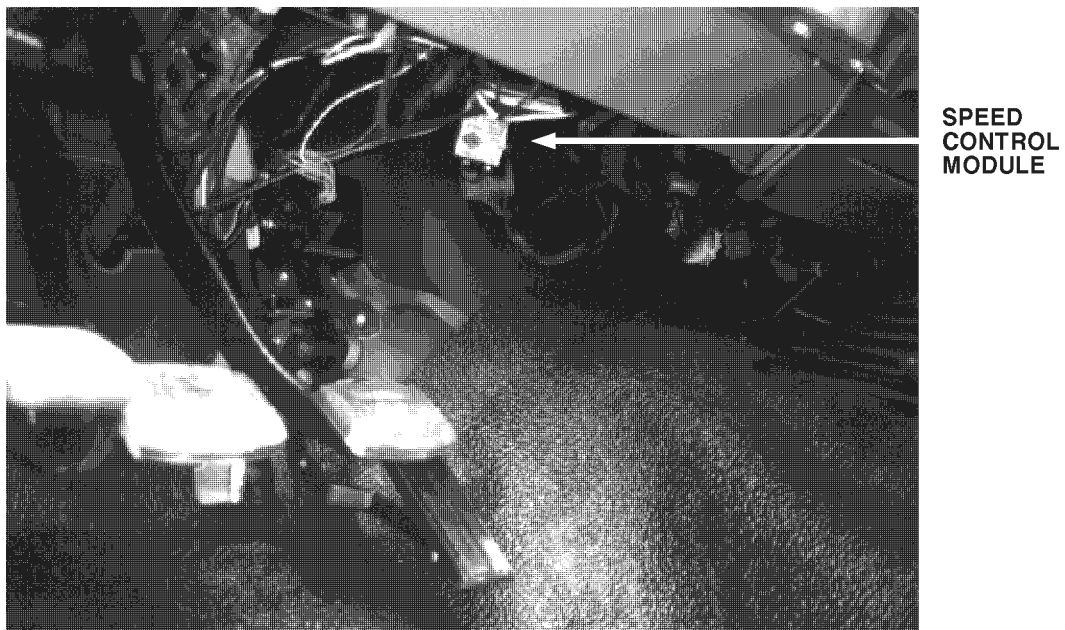

FIGURE 1. REFERENCE PHOTO
STEP 1. Locate Mounting Bracket which is above and to the right side of the Throttle Assembly. See Figure 1. Carefully Remove IMT Idle Controller from plastic packaging. Install using two (2) Economy Type Ty-Wraps to Mounting Bracket.